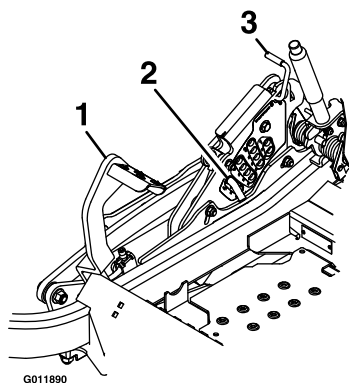

Figure 25
5. Push the foot pedal all the way forward and the deck will latch at the 4 1/2 inch (11.4 cm) transport position (Figure 25).